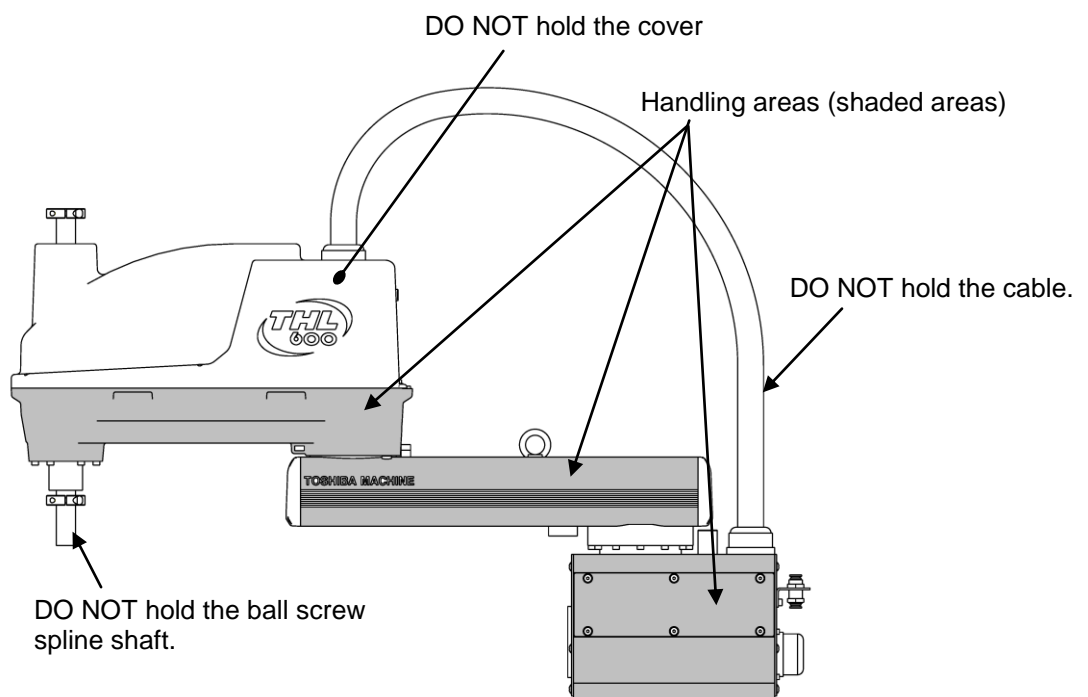

Fig. 5.8 Robot Handling Locations (THL500, THL600 and THL700)
- When lifting up the robot by workers, hold the locations (shaded areas) by hands as shown in Fig. 5.8. Holding the arm 2 cover, the cable and the ball screw spline shaft will apply excess force, possibly causing failure.
- The work should be performed by two (2) or more workers.